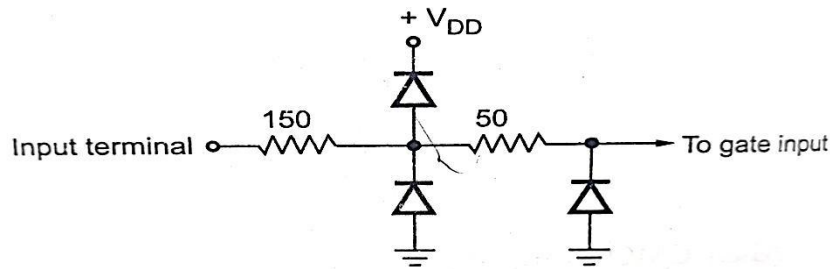

Figure 1.32: Typical network used to protect CMOS from static charges.
- The CMOS devices are protected against this static charge by on-chip diode-resistor network, as shown in figure 1.32